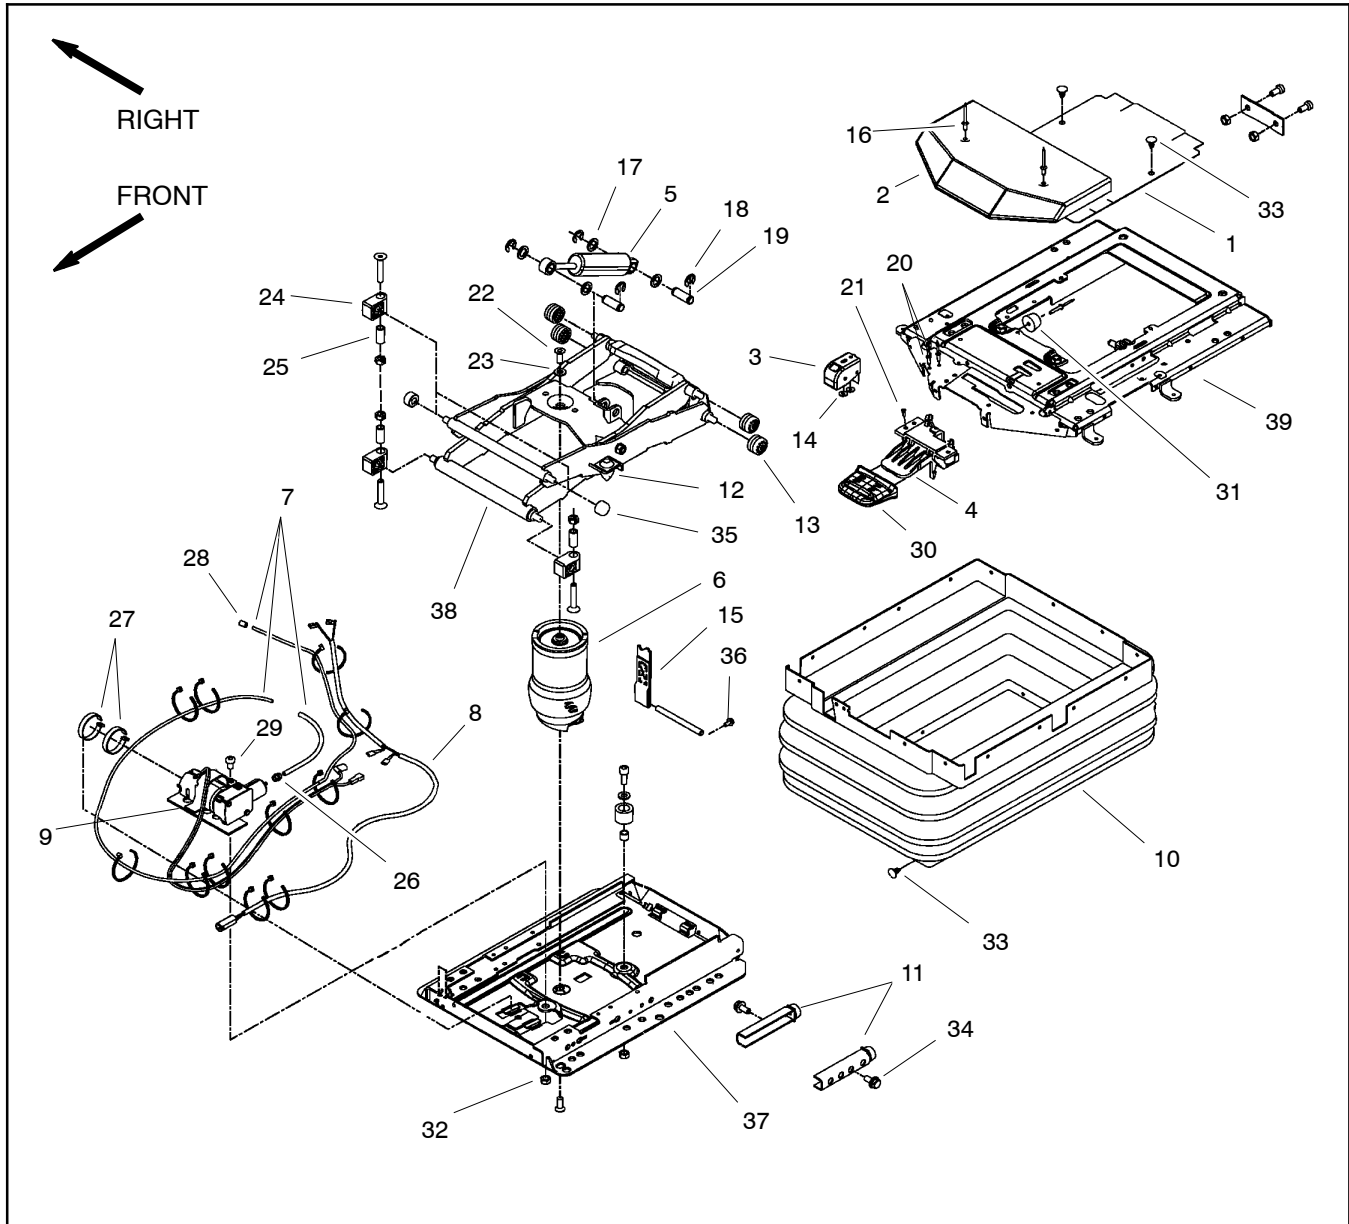
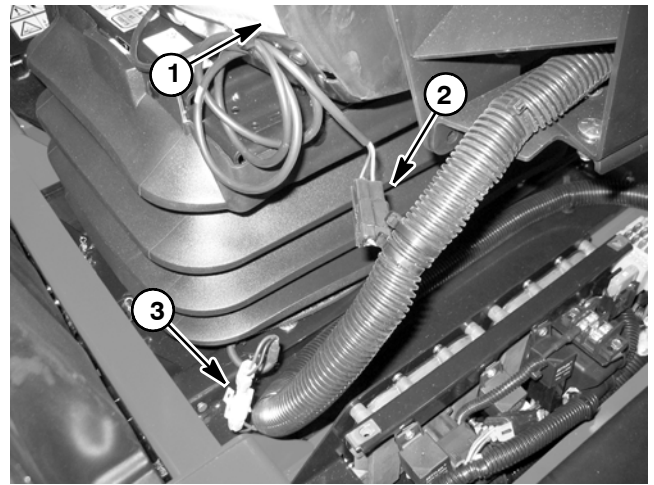
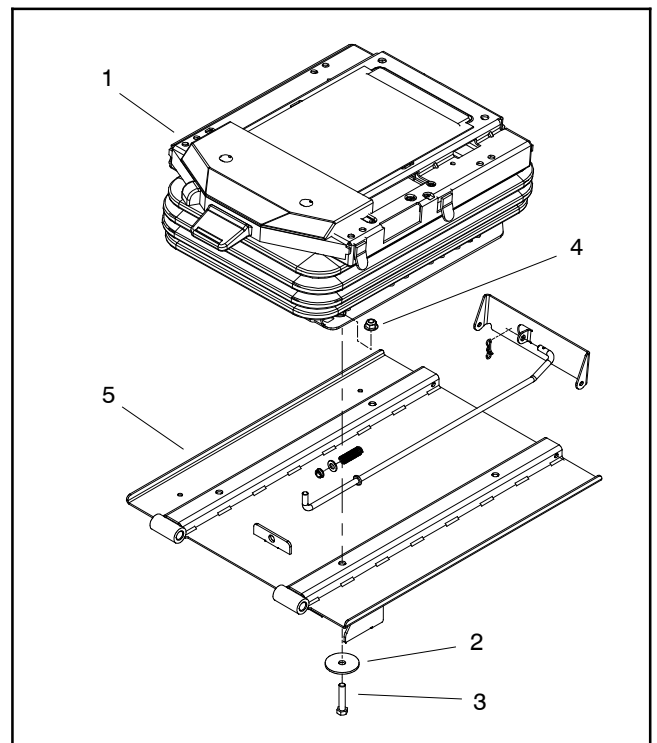

Figure 22
Figure 23
Figure 24
Disassembly (Fig. 22)
2. Disconnect seat suspension connector from machine wire harness (Fig. 23).
3. If the air spring assembly (item 6) or base plate (item 37) requires removal, remove seat suspension from seat plate (Fig. 24):
- B. Remove four (4) cap screws, flat washers and flange nuts that secure seat suspension to seat plate.
4. Remove seat suspension components as needed using Figure 22 as a guide.
Assembly (Fig. 22)
1. Install all removed seat suspension components using Figure 22 as a guide.
2. If seat suspension was removed from seat plate, secure suspension to seat plate (Fig. 24):
- B. Secure seat suspension to seat plate with four (4) cap screws, flat washers and flange nuts.
4. Make sure that seat electrical connectors are connected to machine wire harness (Fig. 23).